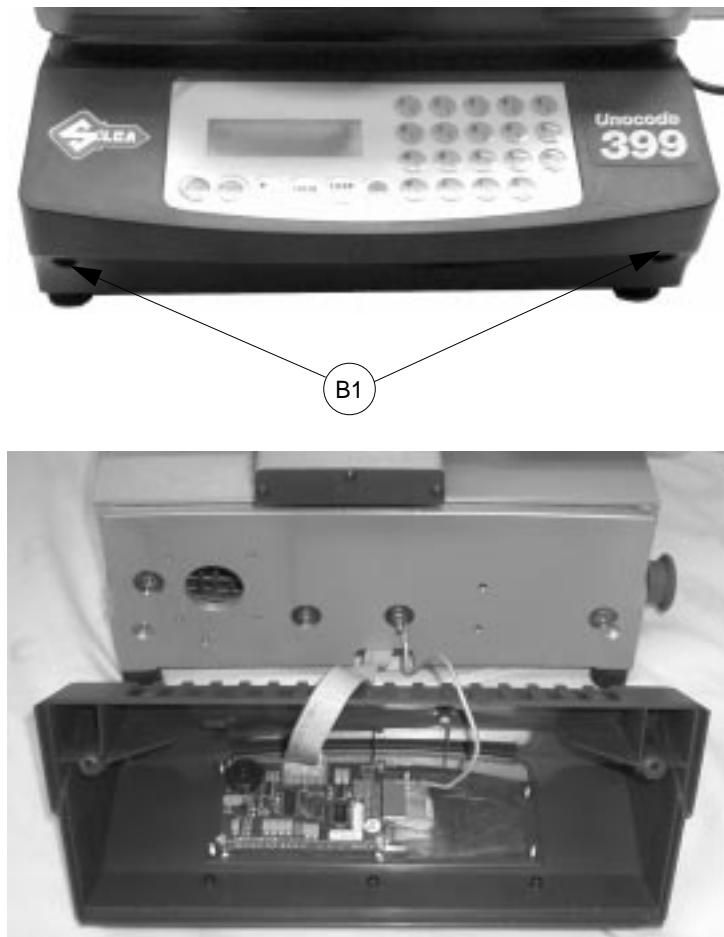

Fig. 51
- 2) remove the display's support, by unscrewing the 2 (B1) fixing screws (fig. 51).